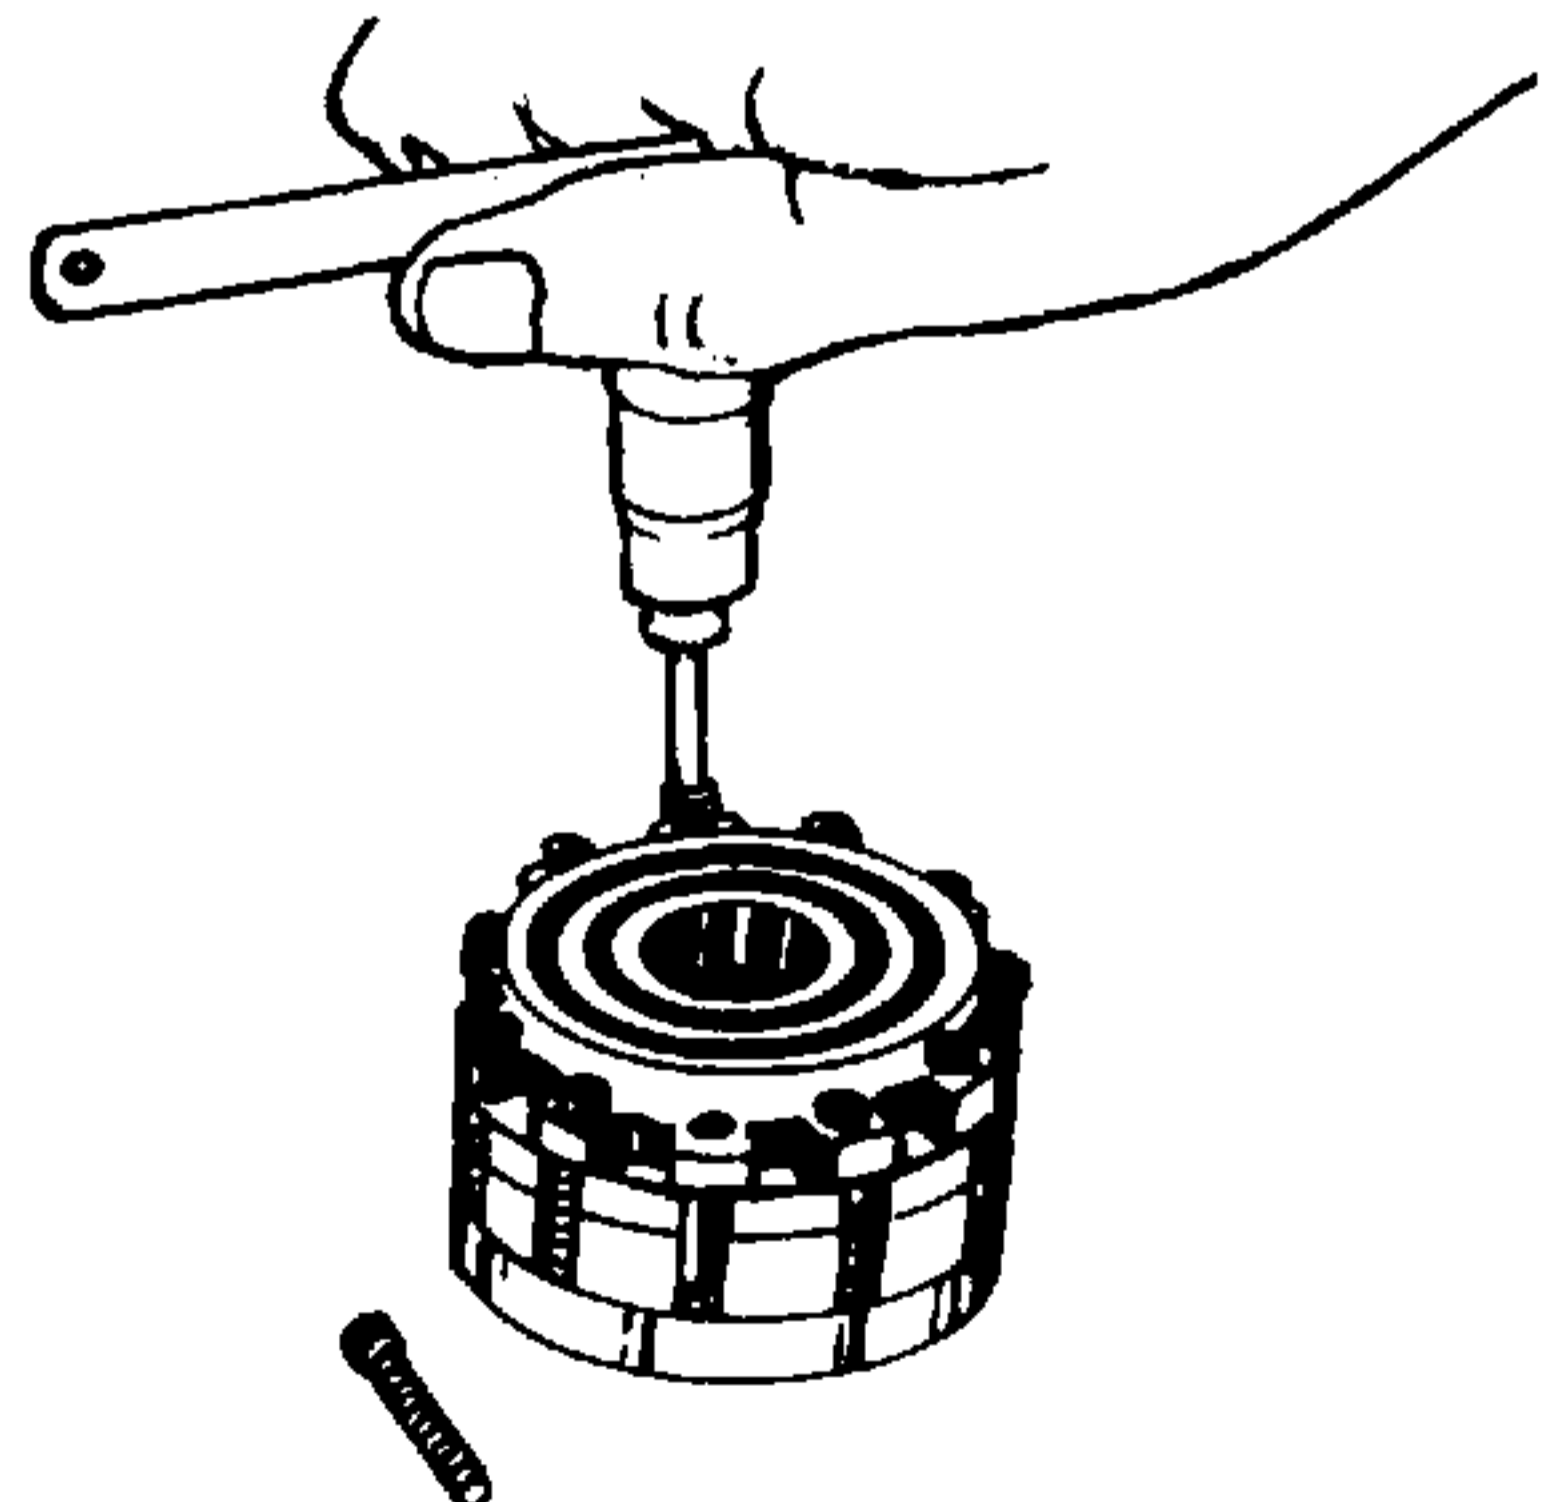

Figure 4-24. Removing Hex Socket Head Screws.
26. Remove the eleven hex socket head screws (16, Figure 4-1) that hold the metering package together. See Figure 4-24. Use a 3/32 inch Allen wrench. Inspect screws for thread and socket damage and replace as required.